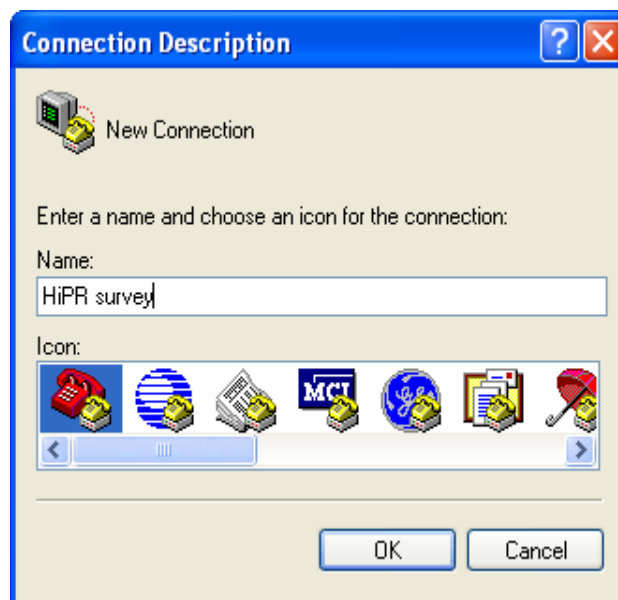
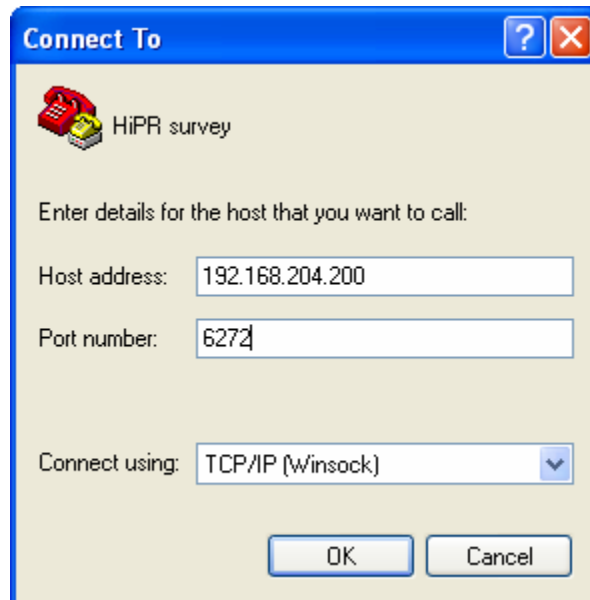

Figure 3
Figure 4
2. Start the Hyper Terminal on the PC. Hyper Terminal is located on the Start Menu > Accessories > Communications. Open a telnet connection (Figure 3). This is done by selecting TCP/IP (Winsock) in the Connect Using box. Enter the IP address for the radio (Figure 4). Set the Port number to 6272.